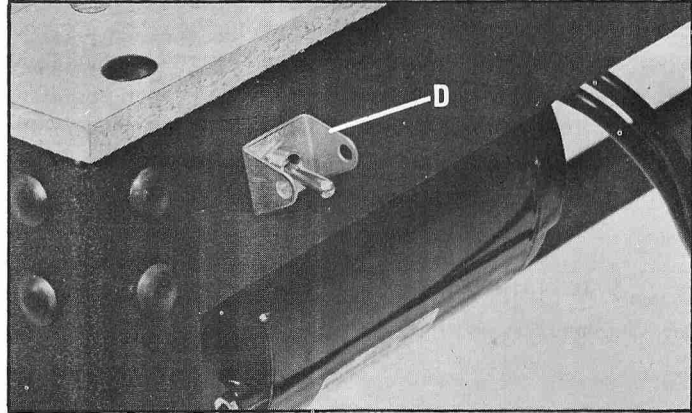

Fig. 13
3. Insert switch stem through hole in front of stand, as shown in Fig. 13. Make sure keyway in switch stem is at the bottom.
4. Place switch bracket (D) Fig. 13, on switch stem with key of switch bracket engaged in keyway of switch stem. Fasten in place with hex nut that was removed in STEP 2.